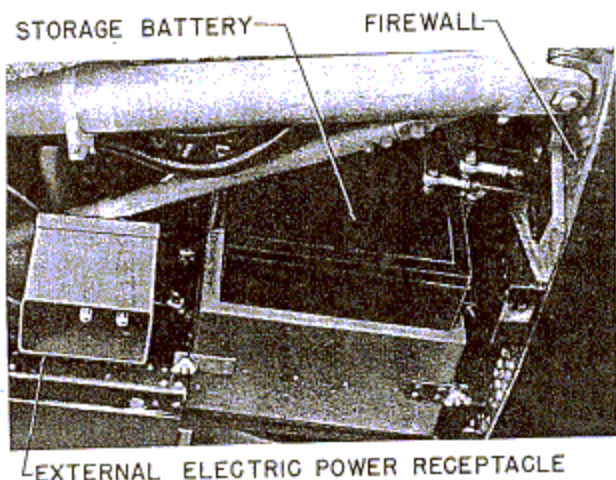

Figure 253—Battery Installation
1. A 24-volt, 11 ampere-hour storage battery, part No. DD-28250 (Electric Storage Battery Company) was installed in airplanes AF42-104429 through AF42-105803. A 24-volt, 34 ampere-hour storage battery, Specification AN-W-B-152, is installed in airplanes AF42-105804 and subsequent. The battery is installed in the fuselage between stations 9 and 10 in airplanes AF42-104429 through AF42-106028 and in the engine compartment on the left engine mount in airplanes AF42-106029 and subsequent. (See figure 253.)